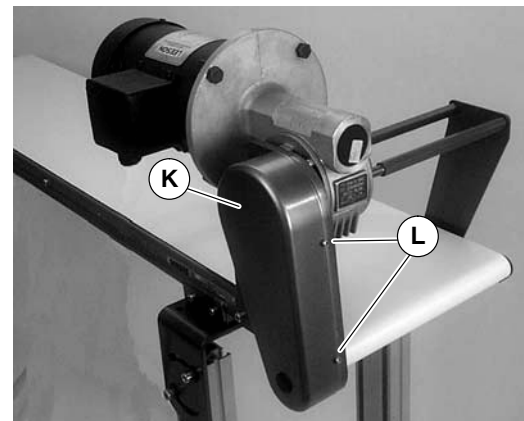

Figure 18
- Install cover (K of Figure 18) with four screws (L). Tighten to 35 in-lb (4 Nm).
- Remove four screws (L of Figure 18) and remove cover (K).
4. Install cover (K of Figure 18) with four screws (L). Tighten to 35 in-lb (4 Nm).
1. Remove four screws (L of Figure 18) and remove cover (K).
6. Install cover (K of Figure 18) with four screws (L). Tighten to 35 in-lb (4 Nm).